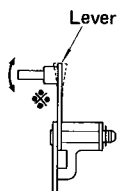

Fig. 5
2. If specifications cannot be satisfied for both the PLAY and SCAN states, make fine adjustments by bending the lever shown in Fig. 5 at the point marked *